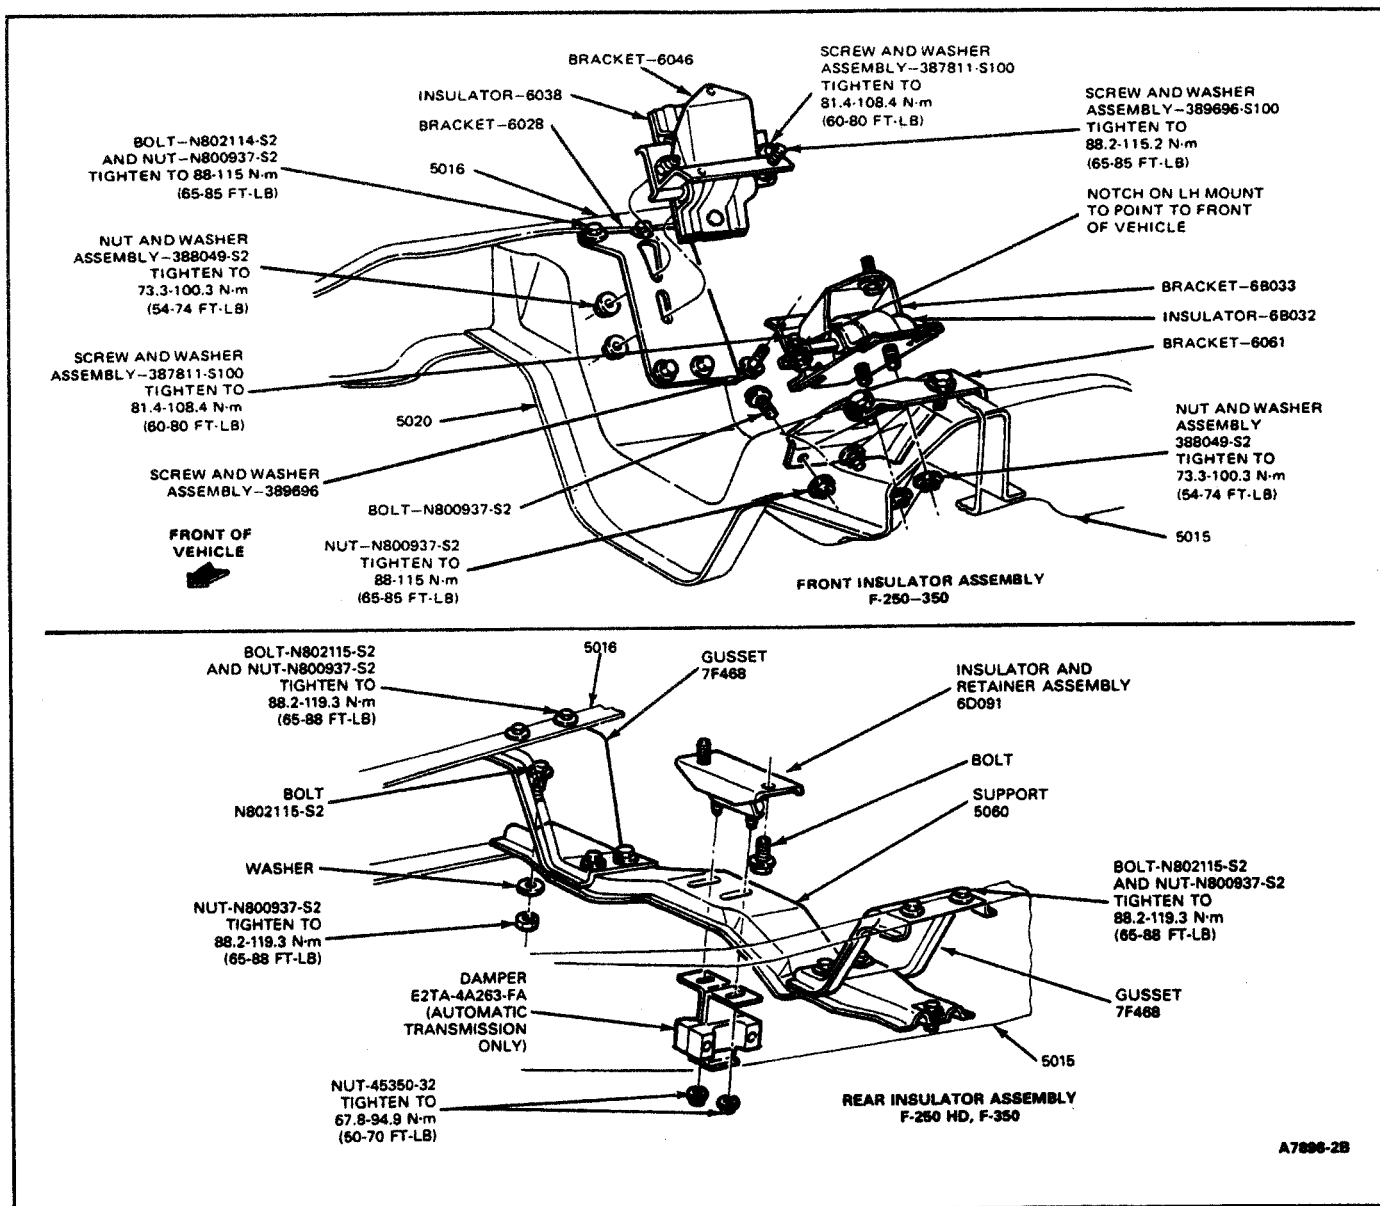

FIG. 26 Engine Insulators—F-250—F-350
5. Remove nuts attaching insulators to No. 1 crossmember (Fig. 26).
1. Install insulator on insulator bracket and tighten to specifications (Fig. 26).
1. Remove the insulator to support assembly bolt and locknut (Figs. 26 and 27).
1. Position the insulator and retainer to the transmission housing and install the attaching bolts and lockwashers, using the holes noted on removal (Figs. 26 and 27). Tighten to specifications.